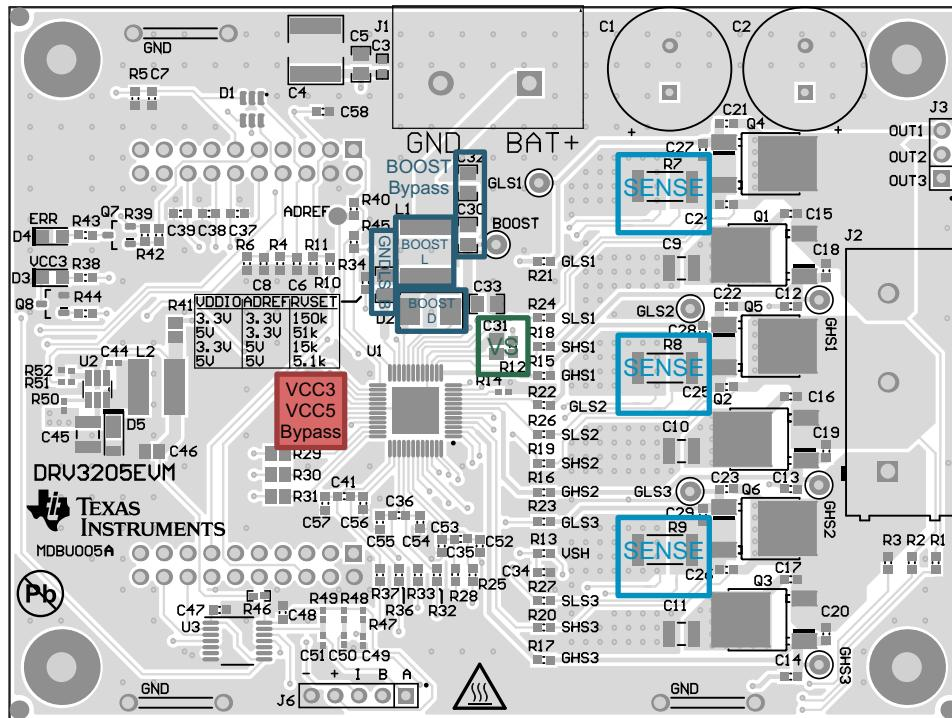

Figure 19. Layout Schematic
- The VS bypass capacitors should be placed close to the power supply terminals. See the VS box in Figure 19.
- Place the VCC3 and VCC5 bypass capacitors close to the corresponding pins with a low impedance path to the ground plane pin (pin 16). See the VCC3 VCC5 bypass box in Figure 19.
- Route the sense lines, IPx and INx, each with a unique trace, directly to either side of the sense resistor. See the SENSE box in Figure 19.
- Keep the BOOST components close to the device and current loops small. See the BOOST boxes in Figure 19.
- Place the current sense resistors close to the respective low-side FET. See the SENSE box in Figure 19.
- Place the GNDLS_B resistor close to the device pin. See the GNDLS_B box in Figure 19.